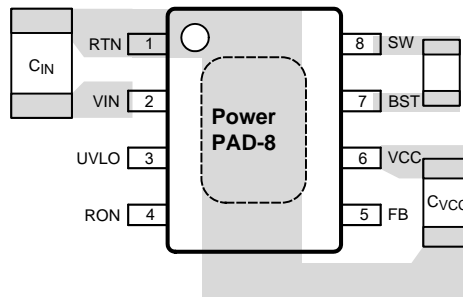

Figure 17. Placement of Bypass Capacitors
1. C_{IN} : The loop consisting of input capacitor (C_{IN}), V_{IN} pin, and RTN pin carries switching currents. Therefore, the input capacitor should be placed close to the IC, directly across V_{IN} and RTN pins and the connections to these two pins should be direct to minimize the loop area. In general it is not possible to accommodate all of input capacitance near the IC. A good practice is to use a 0.1 μ F or 0.47 μ F capacitor directly across the V_{IN} and RTN pins close to the IC, and the remaining bulk capacitor as close as possible (see Figure 17).
2. C_{VCC} and C_{BST} : The V_{CC} and bootstrap (BST) bypass capacitors supply switching currents to the high and low side gate drivers. These two capacitors should also be placed as close to the IC as possible, and the connecting trace length and loop area should be minimized (See Figure 17).